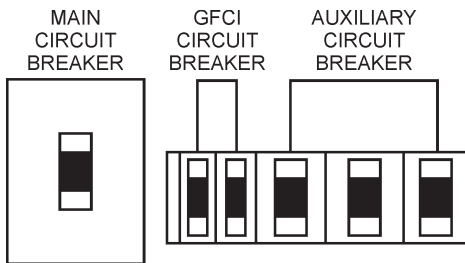

Figure 37. Main, Aux. and GFCI Circuit Breakers (OFF)
1. Place the **main, G.F.C.I., and aux.** circuit breakers (Figure 37) in the **OFF** position prior to starting the engine.